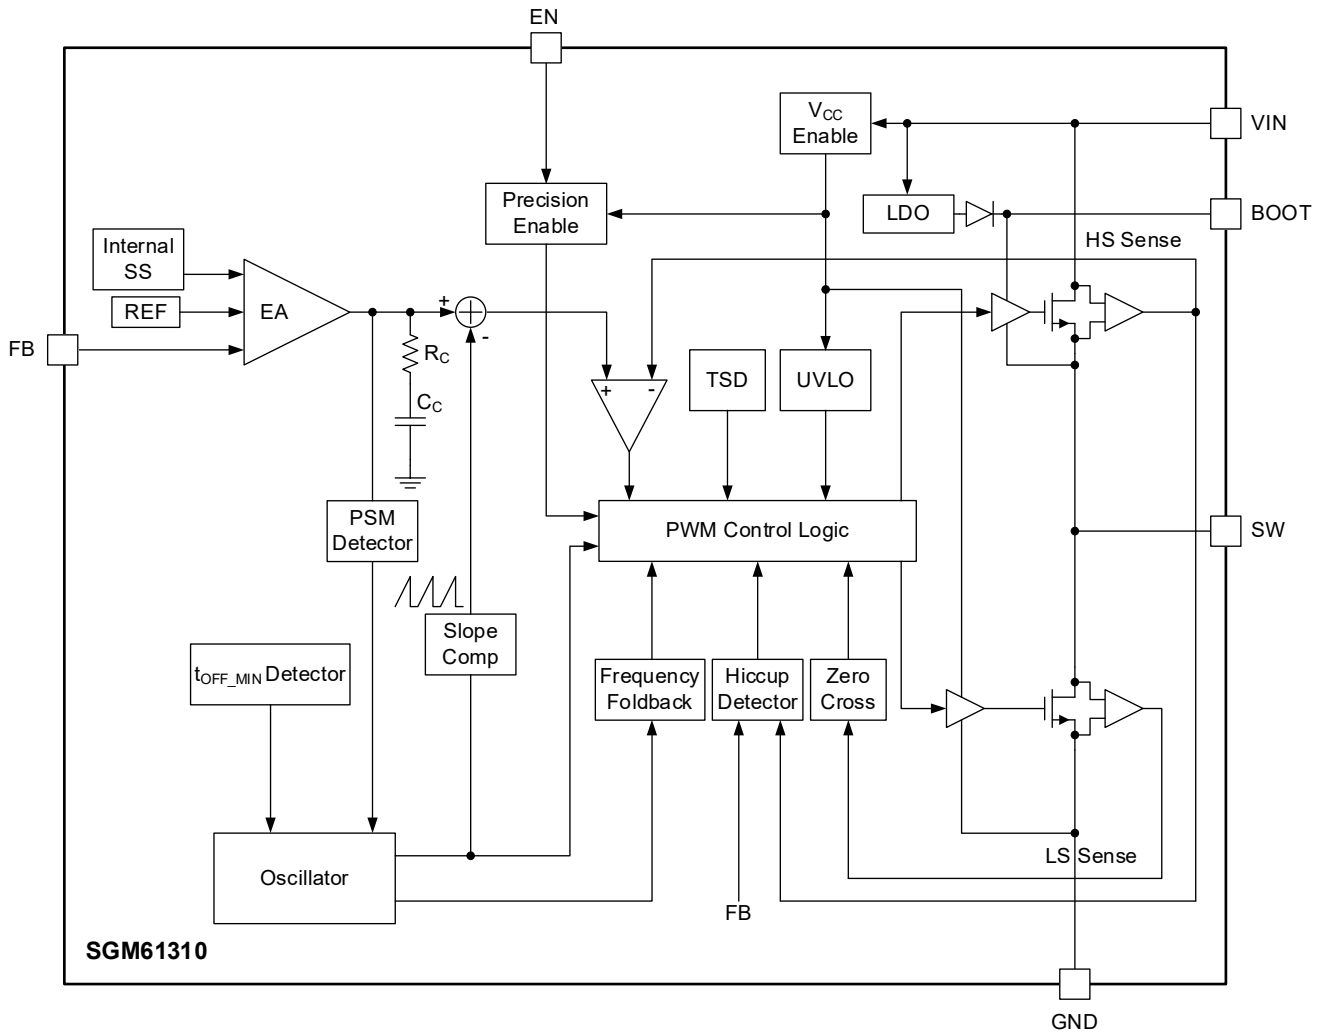
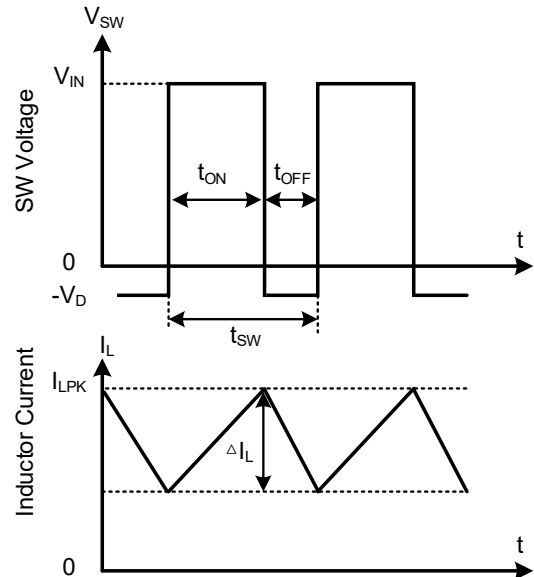
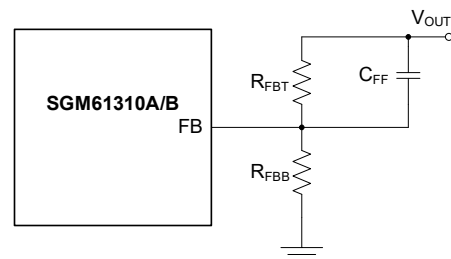

Figure 2. Block Diagram
Figure 3. Converter Switching Waveforms in CCM
Figure 6. Improving Loop Compensation by Feed-Forward Capacitor
The Functional Block Diagram and basic waveforms of these Buck synchronous regulators are shown in Figure 2 and Figure 3. The N-MOSFETs are used for high-side (HS) and low-side (LS) (synchronous rectifier) switches. The HS duty cycle ( $D = t_{ON}/t_{SW}$ ) is controlled in closed loop to regulate and maintain the output voltage at a constant level. The switching period is  $t_{SW} = 1/f_{SW}$ , and the HS on-time is  $t_{ON}$ . When HS is turned on, the SW node voltage sharply rises towards  $V_{IN}$ , and the inductor current ( $I_L$ ) starts ramping up with  $(V_{IN} - V_{OUT})/L$  slope. When HS is turned off, the LS is turned on after a very short dead time to avoid shoot-through, and  $I_L$  ramps down with  $-V_{OUT}/L$  slope. When the inductor current is continuous (either due to sufficient load, or FPWM), the output voltage is proportional to the input voltage and duty cycle ( $V_{OUT} = D \times V_{IN}$ ) if component parasitics are ignored.
The SGM61310A/B is internally compensated (see Figure 2) and is stable over the entire  $f_{SW}$  and  $V_{OUT}$  operating range. However, the phase margin can be low for some ranges of  $V_{OUT}$  when low ESR ceramic capacitors are used in the output. In such cases, it is recommended to use a feed-forward capacitor ( $C_{FF}$ ) in parallel with the  $R_{FBT}$  to improve the transient response as shown in Figure 6.
current to determine the HS turn-off time (on-time). See Figure 2 for details. Before comparison, the EA output is clamped to a fixed maximum threshold ( $I_{HS\_LIMIT}$ ) to limit the current. So, the peak current limit of the high-side switch is not affected by the slope compensation and remains constant over the full duty cycle range.
An external resistor divider is used to set the output voltage as shown in Figure 6. Use Equation 9 to set VOUT: